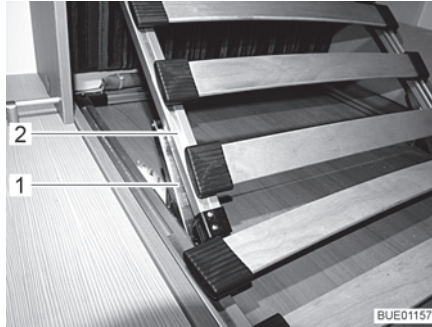

Fig. 103 Adjustable head section
- Raise the head section (Fig. 103,2) of the slatted frame to the desired position. The support (Fig. 103,1) locks automatically into place.
- Raise the head section (Fig. 103,2) of the slatted frame until the lock is released.